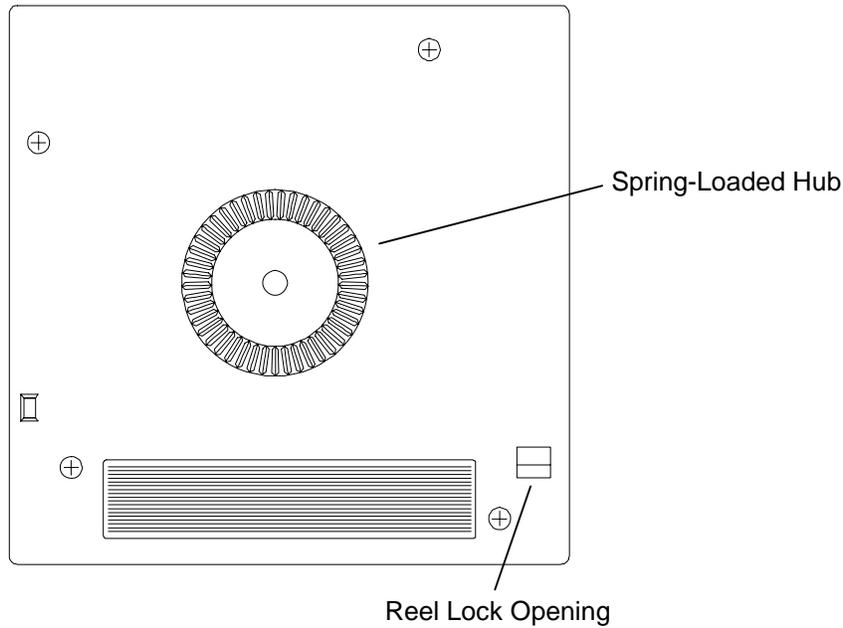

Figure 5-7 Location of Bottom Reel Lock Tab
5. Look at the bottom of the tape cartridge, oriented as in Figure 5-7. Check the reel lock opening and ensure that the plastic tab is partially visible. This is the second